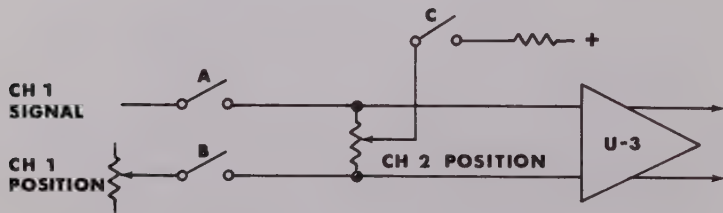

Figure 4-1. Chopper Connections
CHANNEL 1 vertical input signal is coupled through the AC/DC/GND switch to the X1 or $\times 100$ input attenuator. The input X1 buffer amplifier U-1 has a high input impedance (so that the input attenuator will not be loaded) and has a low output impedance to drive the post attenuator. The post attenuator has the vernier control providing variable gains between fixed attenuator steps of $\div 1$ to $\div 50$. The combination of input and post attenuators normalizes the input signal to 80 millivolts full scale peak-to-peak. Another X1 buffer amplifier unloads the post attenuator and drives the CH 1 chopper circuit. Selecting CH 1 turns the chopper switches on continuously. In the ALT mode the CH 1 chopper switches are on for one sweep and off the next sweep, while the CH 2 chopper is on. The CHOP mode causes the CH 1 and CH 2 chopper switches to alternate at about a 100 KHz rate between channels during the same sweep. Both CH 1 and CH 2 switches are turned on continuously for the ADD mode. For the CH 2 mode, the CH 1 chopper is off, with the CH 2 chopper on. Each channel chopper may be considered as a two pole single-throw electronic switch controlled by a transistor driver. In the CH 1 chopper, one pole (A) conducts input signals and the other pole (B) conducts CH 1 vertical position dc levels. See Figure 4-1.